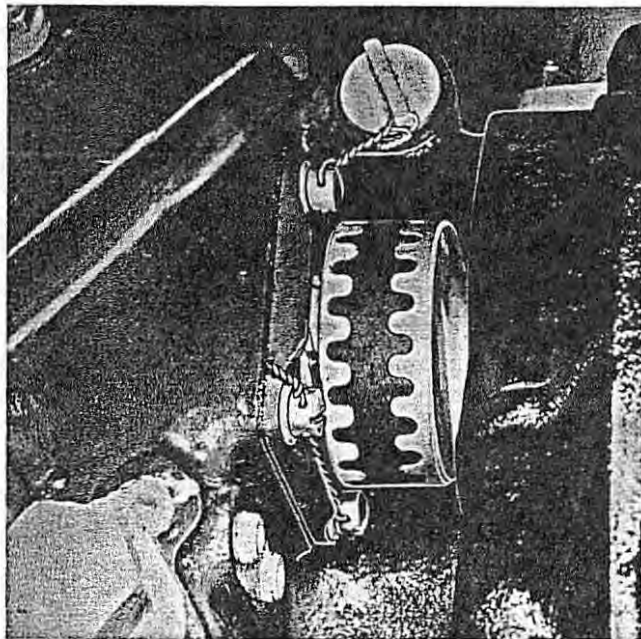

Figure 5-43. Magneto Drive Coupling
- Engage rubber coupling (figure 5-43) and fit magneto over dowel pins in mounting pad. Fasten magneto to engine with cap screws and safety.